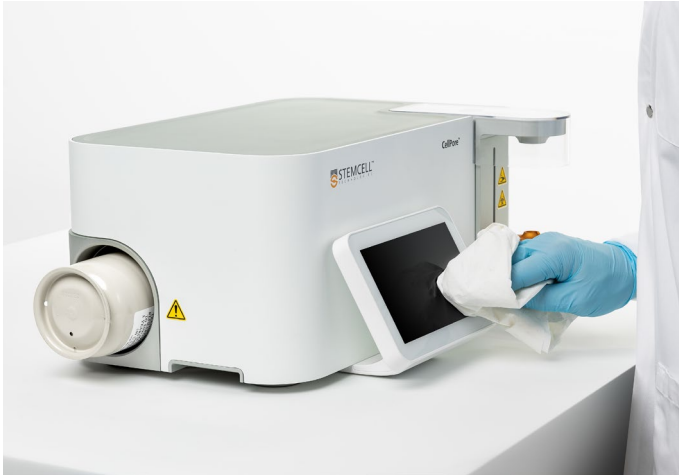

Figure 44. Cleaning the Touchscreen Monitor
7. To clean the touchscreen monitor, spray 70% ethanol or 70% isopropanol on a soft, clean towel and gently wipe down the screen (Figure 44).